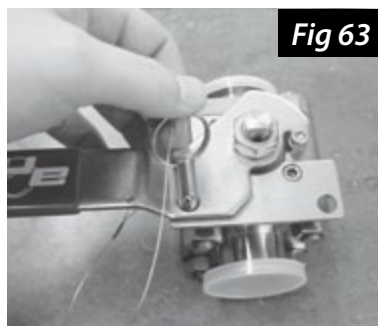

Fig 63
1. If your valve is equipped with a locking kit, remove any lock or pin that may be in place (Fig 63).